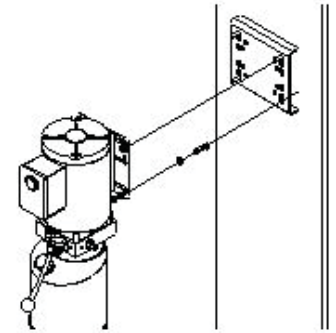

Fig. 12
7.11 Installation Of Power Unit (Ref. Fig. 12)